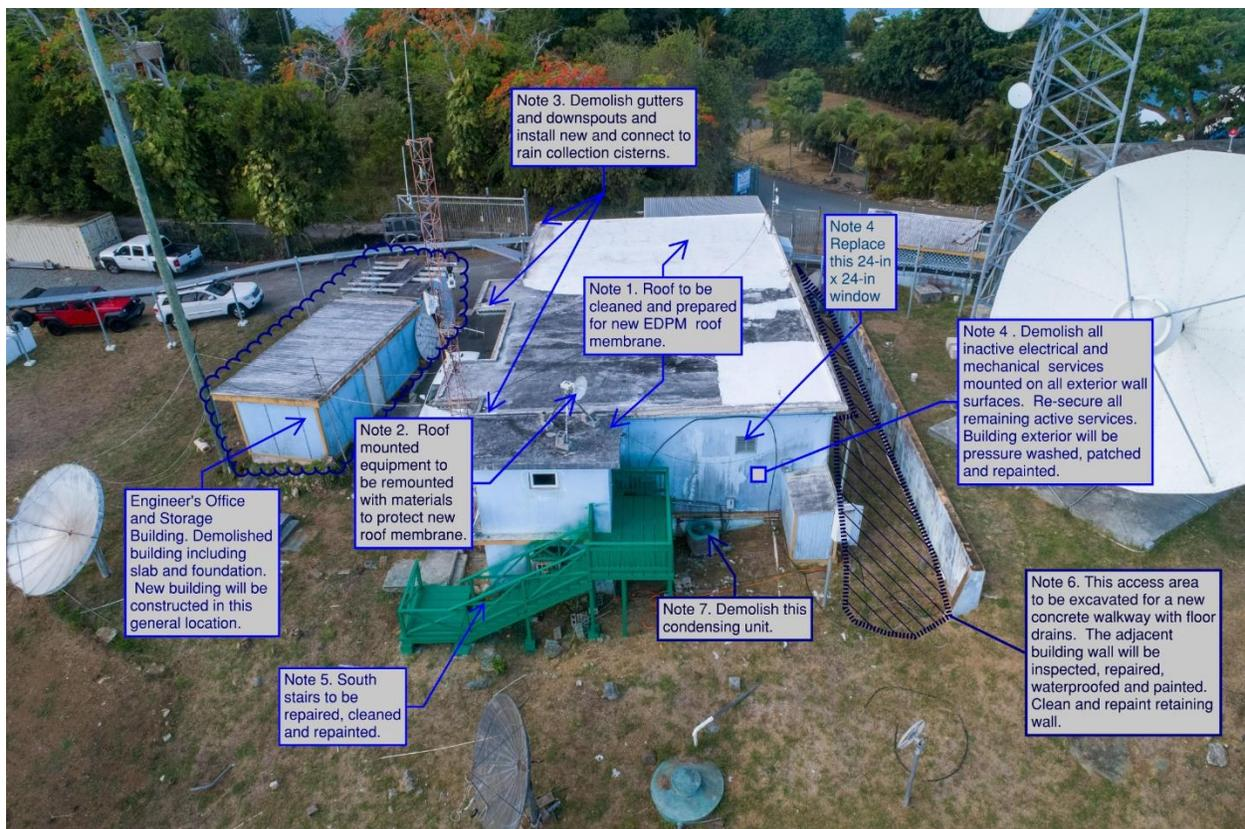
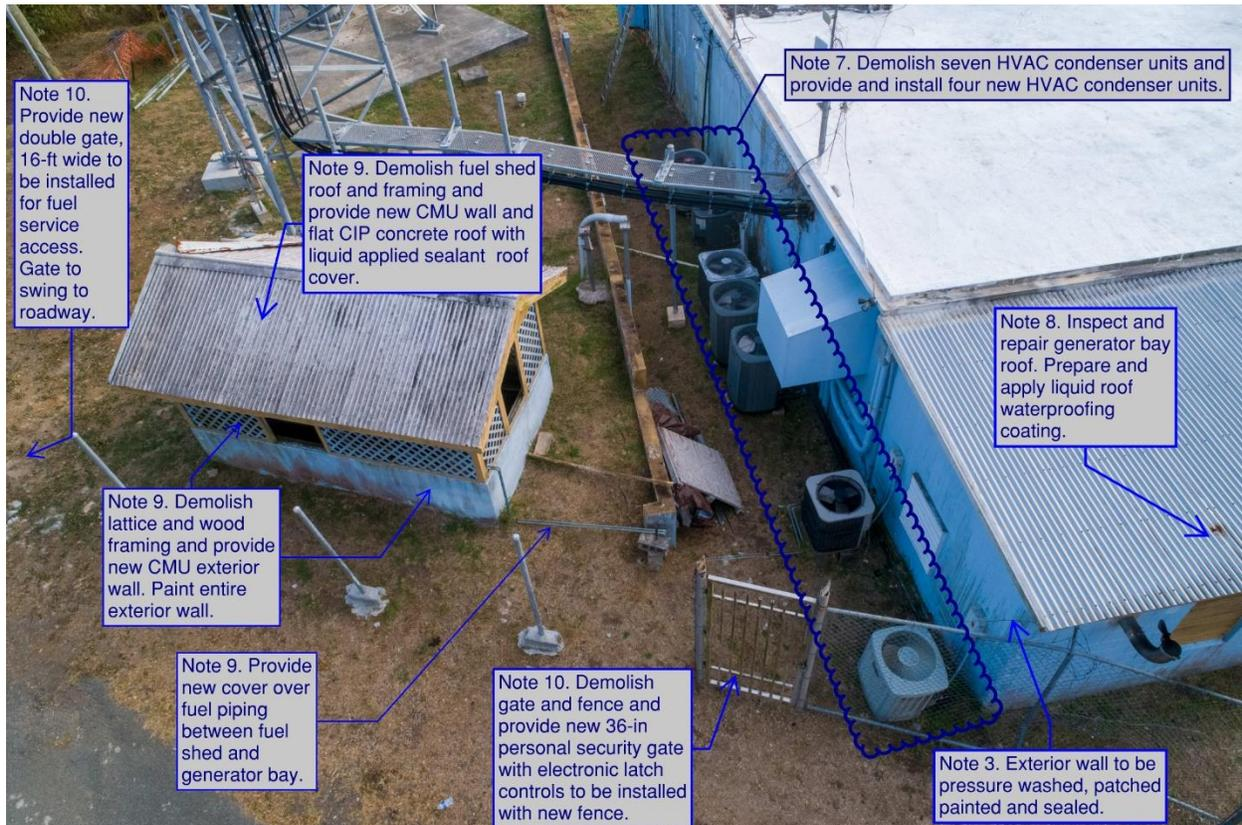

Figure 1 South Elevation
Figure 4 Northeast Exterior Work
**Note 5.** Stairs (see Figure 1). Inspect and repair stairs to restore loose treads, balusters, and handrails. Stairs to be pressure washed, primed and two coats of paint applied. Treads surface to have anti-skid paint additive (Tread-Tex or similar material) to provide traction. Contractor will provide details of the paint and color to be used, for approval of owner, before ordering material.
- Note 7.** Air Conditioning Condensers (see Figure 1 and Figure 4) - Contractor will demolish all air conditioning condensing units. Demolishing includes removal and proper disposal of refrigerant.
- Provide and install four (4) new condensing units, wall-mounted with galvanized mounts to include new electrical disconnects, evacuation of system, providing new refrigerant, leak checking and verifying operation. BTU ratings listed below are approximate. Contractor will verify condensing unit capacity and confirm with owner before ordering new units.
**Note 8.** Corrugated metal roof over generator bay. (See Figure 4) Contractor to inspect 180 sf of corrugated metal roof for and repair any loose or missing fasteners. Contractor will repair or replace any damaged metal panels.
**Note 9.** Demolish and replace existing metal panel roof and lattice walls. (See Figure 4)